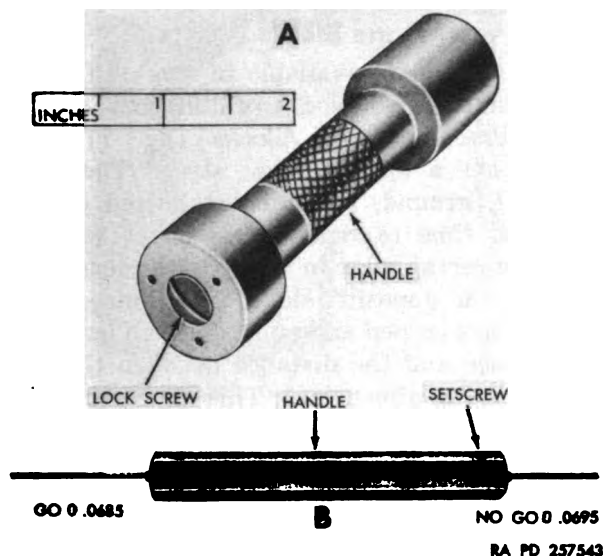

Figure 73. Reversible plug gages.
b. Reversible Design. The reversible type of plug gage (A, figure 73) is usually made in larger dimensions covering a range of 1.510 to 8.010 inches in diameter. The gaging member is a cylinder with a hole through the center, which is counterbored from both ends. Three wedge-shaped locking prongs on the handle are forced into corresponding grooves in the gaging member by a single screw through the center which provides a self-centering support with a positive lock equivalent to that of a solid gage. Another style of reversible plug gage is shown
in B, figure 73. The small setscrews are loosened and the gages can be removed from the handle and reversed or pulled out enough so that they can be cut off at the end without need for shortening the gage.